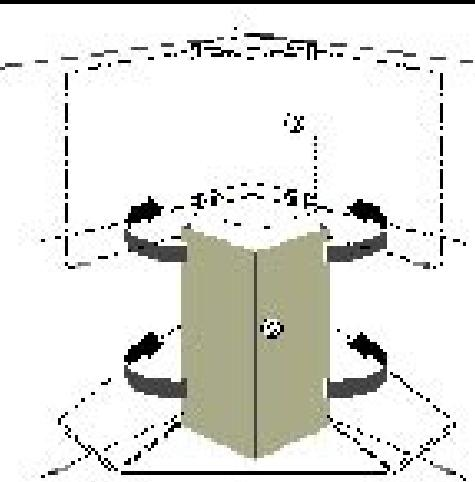

FIGURE 10
10. The chimney must be attached to the body of the rangehood. The upper section of the chimney (S in FIGURE 10) must be nestled first.